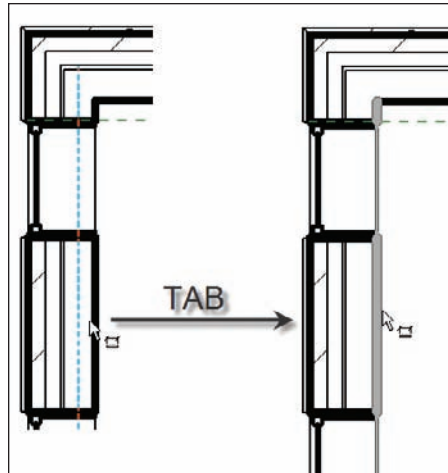

FIGURE 5.27 Press the Tab key to filter to the desired reference of the wall.
7. Zoom in on the left exterior wall, as shown in Figure 5.27.
9. We want Revit to start this dimension string using the interior face of the finished wall. To do this, hover your pointer over the inside face of the wall, as shown in Figure 5.27.